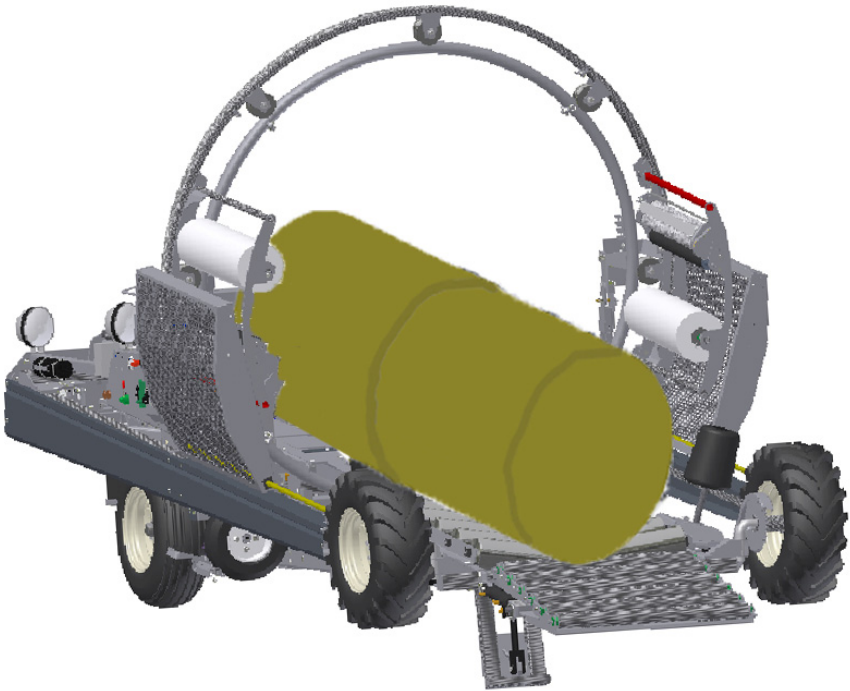

Figure 17 – Compression bales
3. Place an unwrapped bale on the table trigger (horizontally) and allow the pusher to push the bale to the end of the table without wrapping it. For bales of 1.2m (4ft) in diameter you will place another bale on the table the same way as the first. Your pusher will come back to the home position (Figure 17).